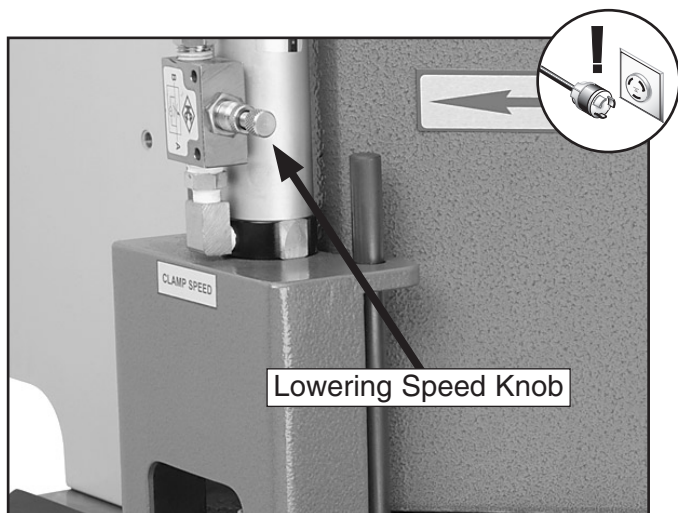

Figure 18. Hold-down lowering speed control.
3. Loosen the jam nut on the hold-down (clamp) lowering speed knob, then turn the knob to adjust the speed (see **Figure 18**).